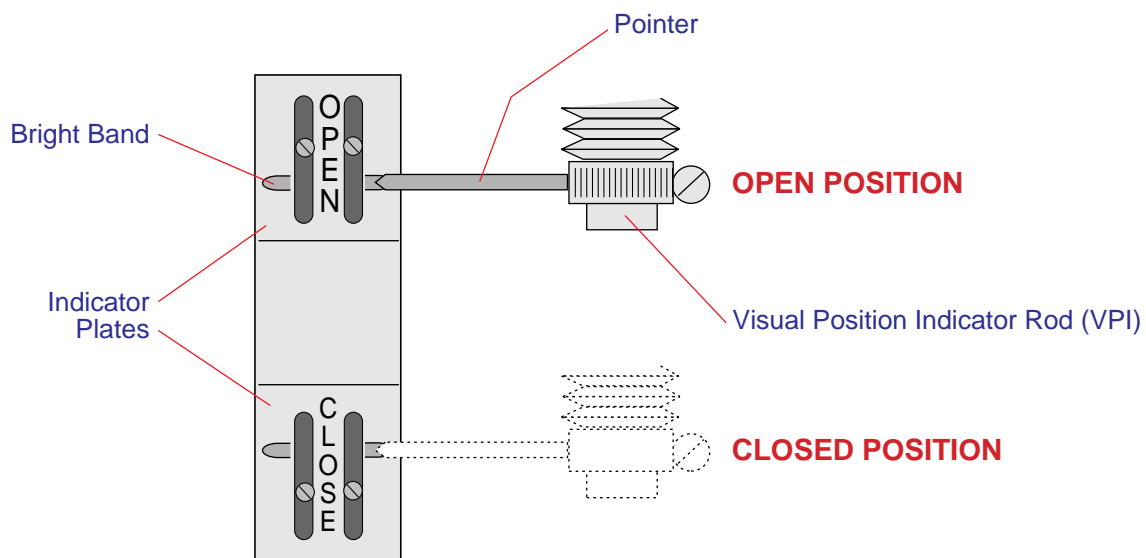

FIGURE 9
7. Check the operation of the actuator/valve. This can be accomplished by cycling the actuator/valve two or three times and observing that the pointer on the VPI rod is over the bright band on the indicator plates in the open and closed position. See Figure 9.